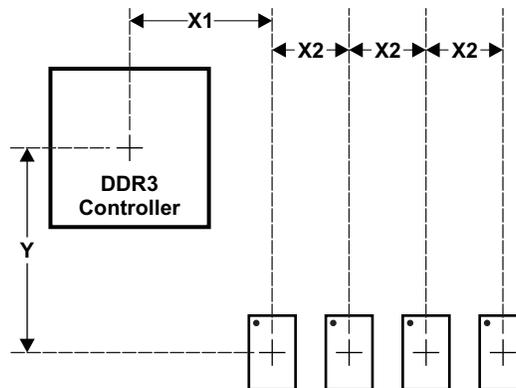
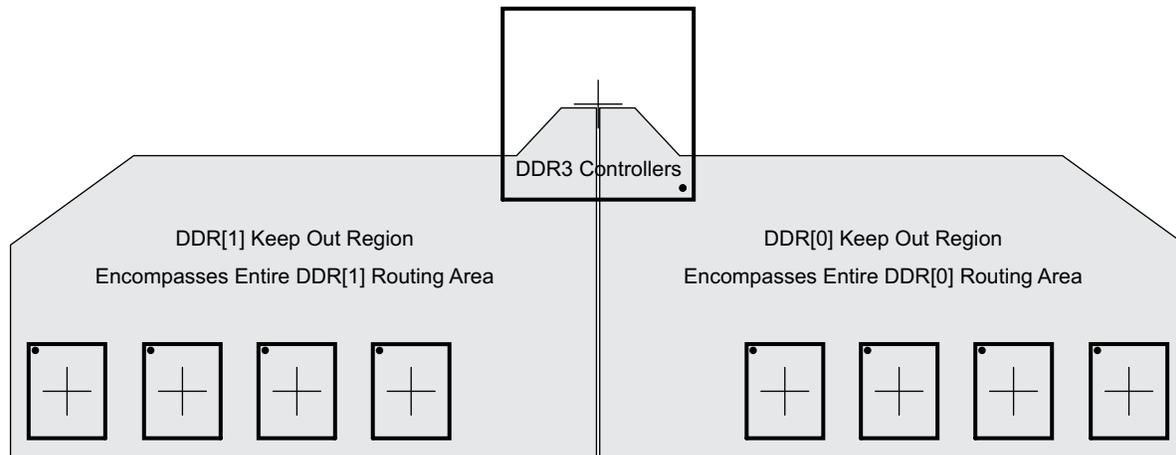

Figure 8-56. Placement Specifications
Figure 8-57. DDR3 Keepout Region
Figure 8-56 shows the required placement for the processor as well as the DDR3 devices. The dimensions for this figure are defined in Table 8-70. The placement does not restrict the side of the PCB on which the devices are mounted. The ultimate purpose of the placement is to limit the maximum trace lengths and allow for proper routing space. For a 16-bit DDR memory system, the high-word DDR3 device(s) are omitted from the placement.
- (1) For dimension definitions, see Figure 8-56.
- (2) Measurements from center of processor to center of DDR3 device.
- (3) Minimizing X1 and Y improves timing margins.
- (4) w is defined as the signal trace width.
- (5) Non-DDR3 signals allowed within DDR3 keepout region provided they are separated from DDR3 routing layers by a ground plane.
- (6) If a device has more than one DDR controller, the signals from the other controller(s) are considered non-DDR3 and should be separated by this specification.
The region of the PCB used for DDR3 circuitry must be isolated from other signals. The DDR3 keepout region is defined for this purpose and is shown in Figure 8-57. The size of this region varies with the placement and DDR routing. Additional clearances required for the keepout region are shown in Table 8-70. Non-DDR3 signals should not be routed on the DDR signal layers within the DDR3 keepout region. Non-DDR3 signals may be routed in the region, provided they are routed on layers separated from the DDR signal layers by a ground layer. No breaks should be allowed in the reference ground layers in this region. In addition, the 1.5-V DDR3 power plane should cover the entire keepout region. Also note that if there is more than one DDR controller, the signals from each controller need to be separated from each other by the specification in Table 8-70, item 5. Each DDR controller should have its own DDR keepout region.
Figure 8-57 is an example of a processor with two DDR controllers. Processors with a single DDR controller will have only one DDR keepout region. Each DDR controller should have its own keepout region.